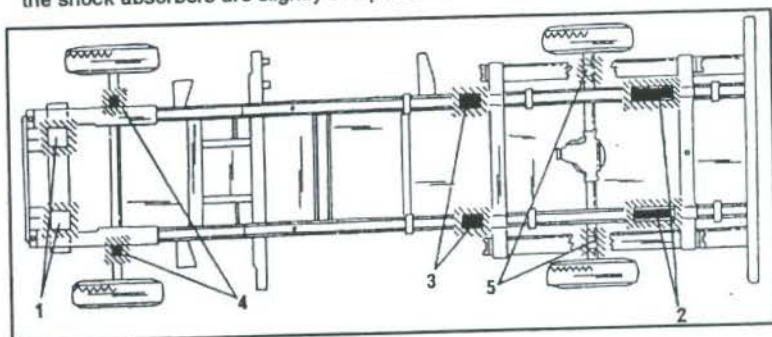

Fig. 5.1 – View of the chassis from underneath. 1 to 5 show where chassis stands can be placed under the vehicle.
- Place the rear end of the vehicle on chassis stands. In this case the stands must not be placed underneath the axle. Fig. 5.1 shows various positions where the stands can be placed.